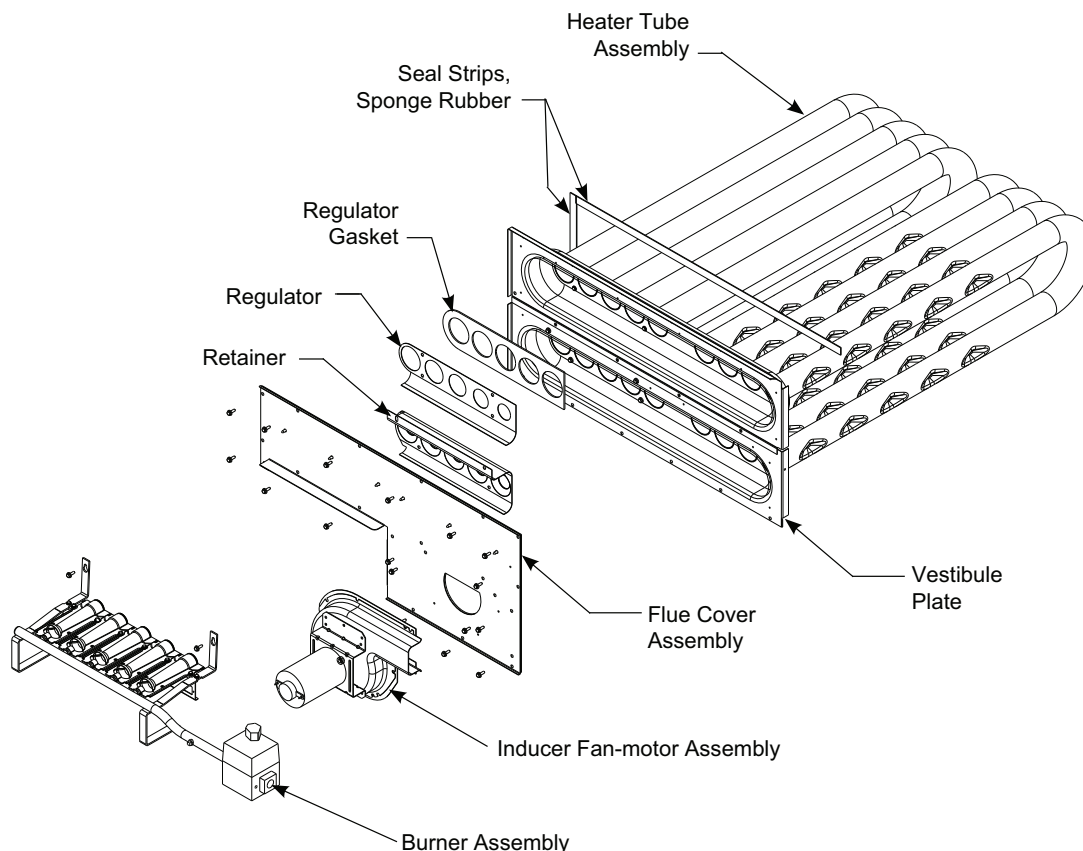

Fig. 55 — Heat Exchanger Assembly
1. Remove the combustion blower wheel and motor assembly according to directions in Combustion-Air Blower section. See Fig. 55.
2. Remove the seven screws attaching the induced-draft motor housing to the vestibule plate. (See Fig. 55.)
9. Remove the two screws attaching the burner rack to the vestibule plate (see Fig. 55).
10. Remove the pressure switch hose from the connection on the flue cover assembly (see Fig. 55).
14. Separate the following from the heat exchanger: inducer fan-motor assembly, flue cover assembly, retainer, regulator, and regulator gasket. See Fig. 55.